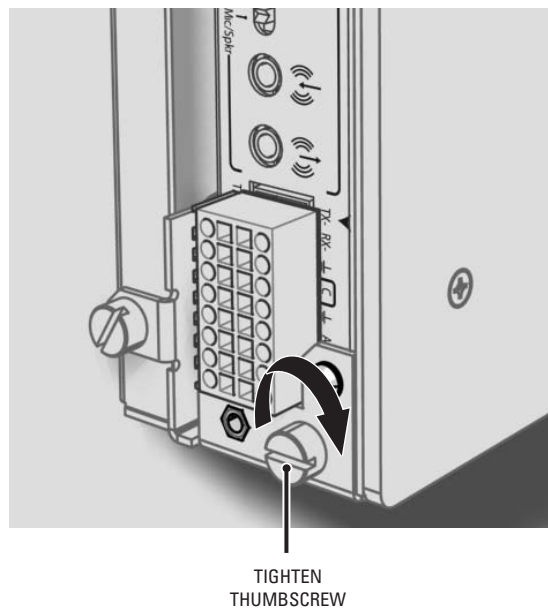

Figure 8. Tighten the Thumbscrew to Secure the Unit
3. Tighten the thumbscrew on the wall mount to secure the unit (refer to Figure 8).